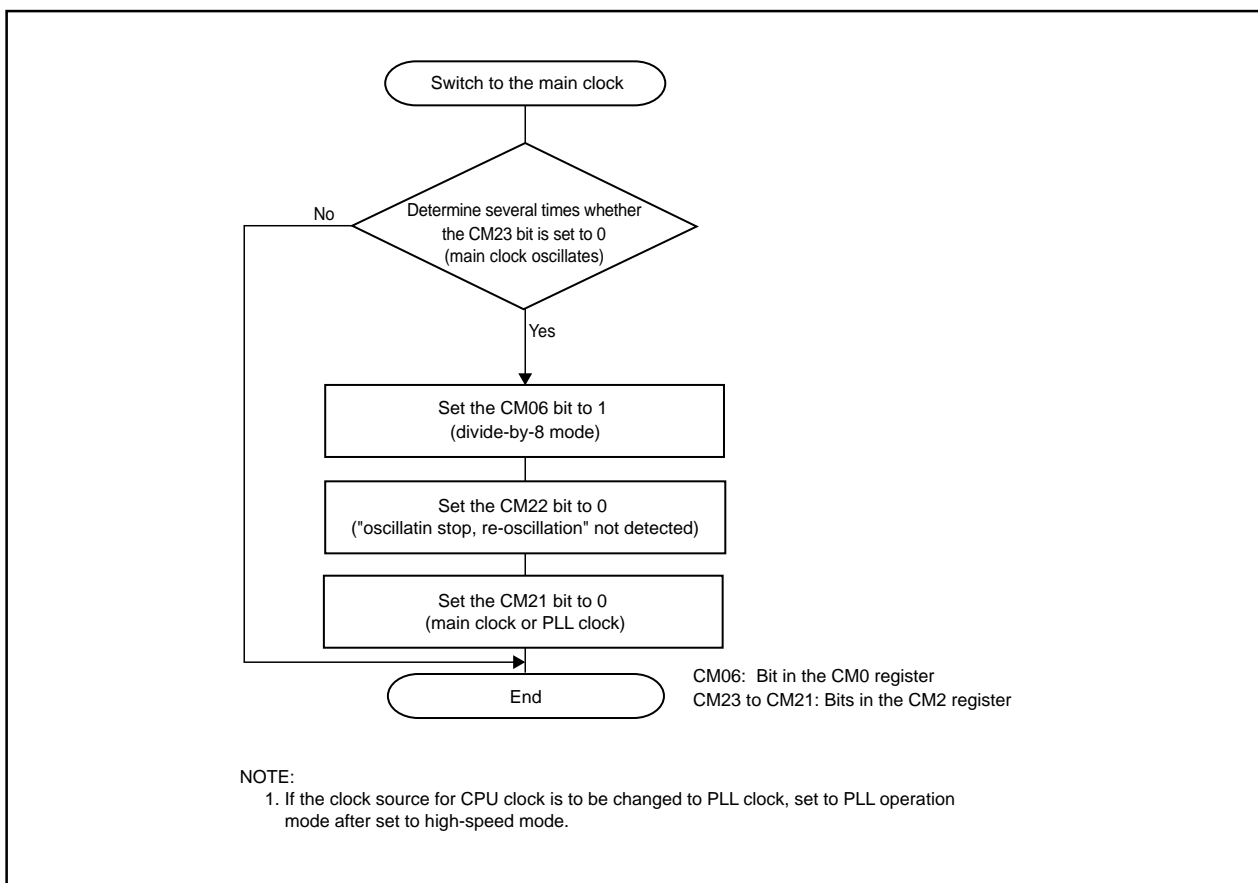

Figure 7.8.3.1. Procedure to Switch Clock Source From On-chip Oscillator to Main Clock
- Where the main clock re-oscillated after oscillation stop, return the main clock to the CPU clock and peripheral function clock source in the program. Figure 7.8.3.1 shows the procedure for switching the clock source from the on-chip oscillator to the main clock.